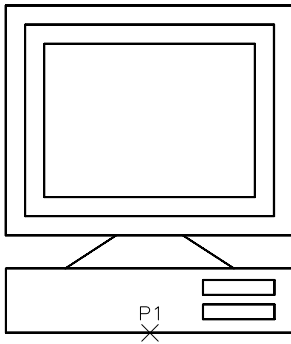

Figure 17-6 Drawing for Example 1
1. Draw the computer, as shown in Figure 17-6. Assume the dimensions, or measure the dimensions of the computer you are using for AutoCAD.